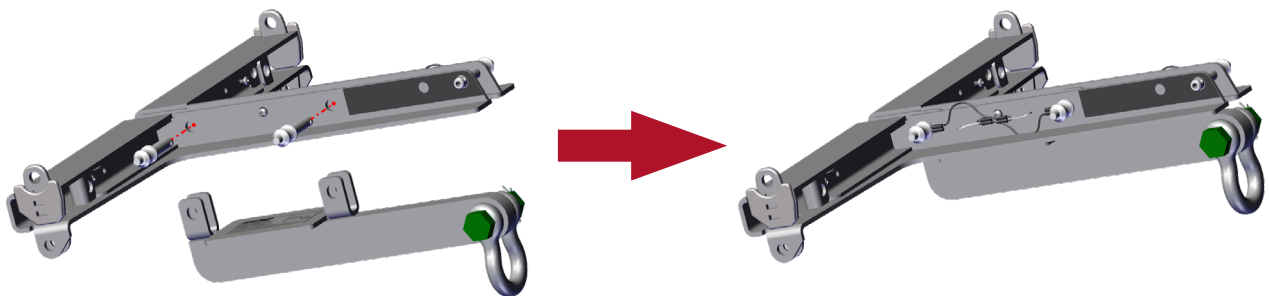

Figure 1
- Turn flybar frame upside down, and pin both locations using pins on the frame to secure the pull back adapter into place (Figure 1). Choose shackle position and attach to available options on the pull back adapter.